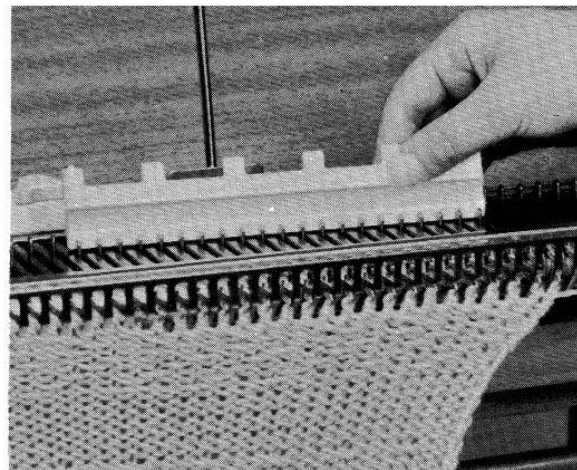

Fig 93
To do this, first using the straight edge of selector plate push forward slightly all the working needles so that they align between position (B) and (D). (Fig.93)